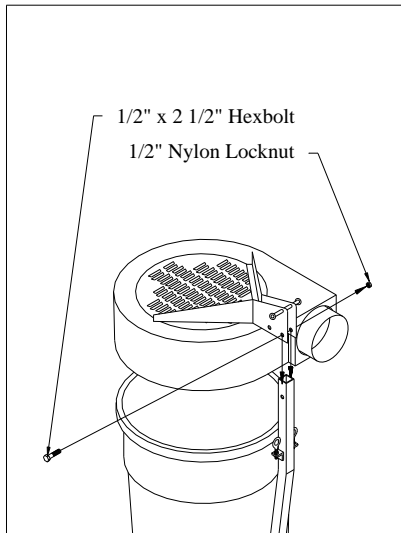

Fig. 10
8. Place container in container ring. Set top assembly down onto container. Align 1/2" swivel hole in top assembly (hole furthest from top) with top hole in vertical support. Secure with 1/2" x 2 1/2" hexbolt and 1/2" nylon locknut. Tighten until slight drag can be felt when pivoting assembly. **Fig. 10**